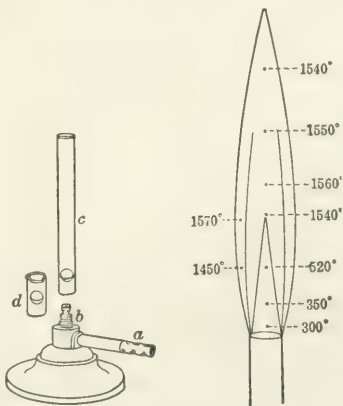

Fig. 1. Bunsen burner and flame.
**Bunsen burner.** — In a laboratory provided with gas the Bunsen burner (Fig. 1) is almost indispensable as a source of heat. When the air holes at the base of the burner are open, air is drawn in and mixes with the gas. It should burn with a clear, blue flame (Fig. 1); the size of the flame can be controlled by adjusting the stopcock. When the holes at the base of the burner tube are closed, a yellow luminous flame results.